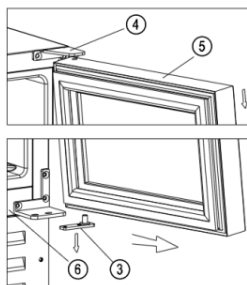

Figure 2
- Pull the door ⑤ outwards slowly [follow the arrow direction in Figure 2] to get off
- The lower hinge ② and continue to pull the door ⑤ downwards slowly until getting off from the top right hinge ④, and take off the lower hinge plate ③ from the door axis hole [Figure 2].#